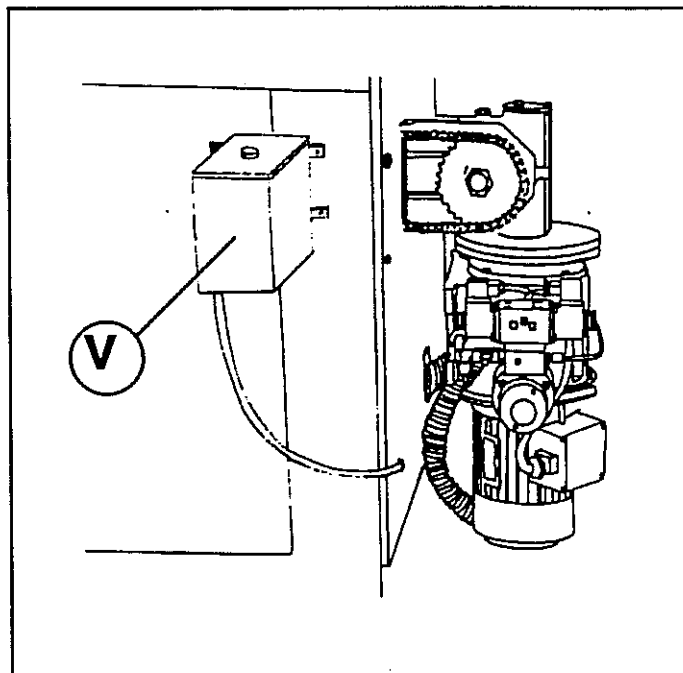

Fig.3.15
The tank (V) that contains the emulsifiable oil is found on the left side of the back part of the machine body (fig.3.15)